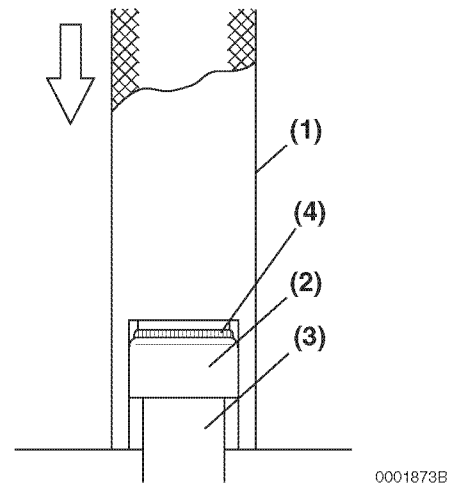

Figure 6-28
The exhaust valve stem seals are different than the intake valve stem seals and can be identified by either the paint marks on the outside of the seals or by the color of the seal spring (Figure 6-28, (4)). Ensure they are installed in the correct locations.
1. Oil the lip of the valve stem seal (Figure 6-28, (2)). Using the valve stem seal installation tool (Figure 6-28, (1)), install a new valve stem seal on each of the valve guides (Figure 6-28, (3)).